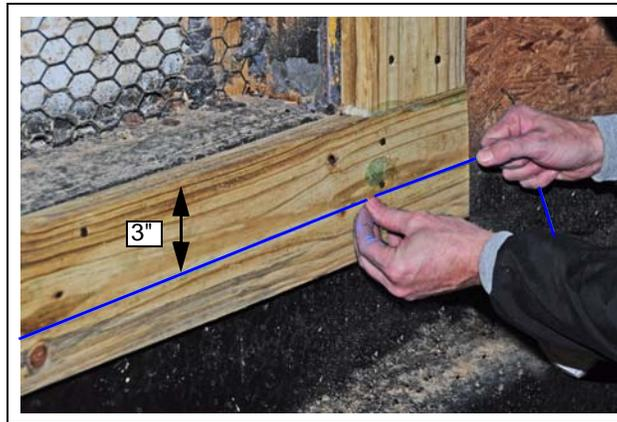
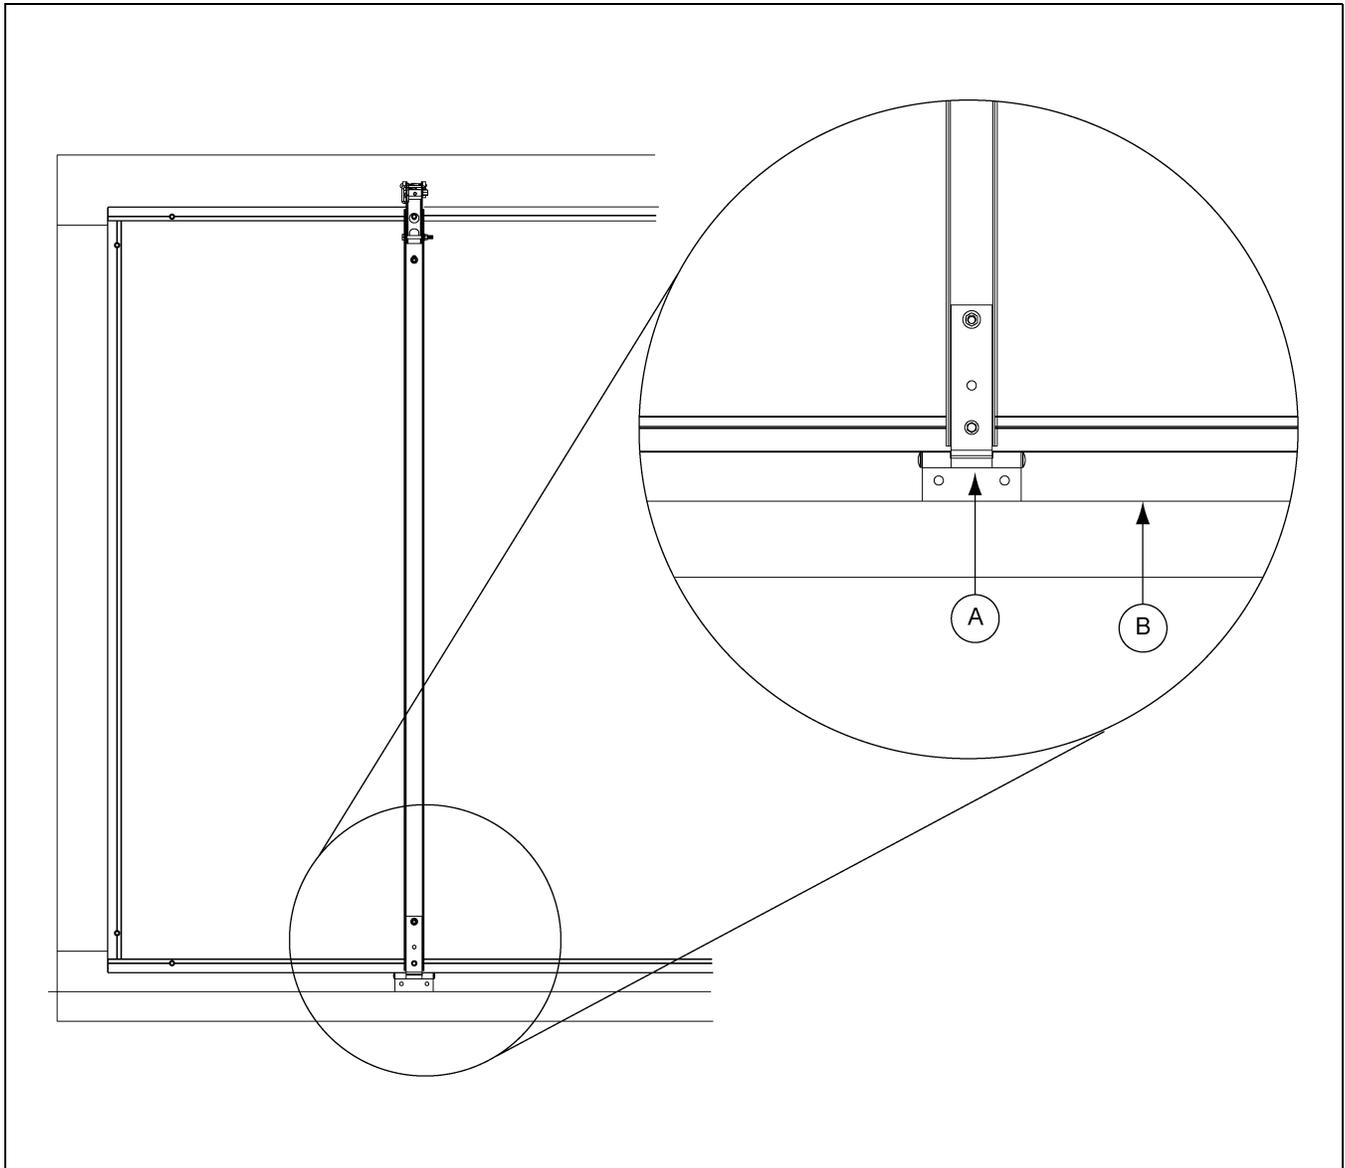

Figure 3D
Figure 3M
2. Chalk a line the complete length of the system measuring 3" from the top side of the bottom 2" x 6" frame board. (See Figure 3D.) To align hinges at a later step. Refer to Figure 3M on Page 15.
2. Align the bottom edge of the hinge with the chalk line (B) and secure the hinge (A) to the wall with lag screws (S-9027). (See Figure 3M.)